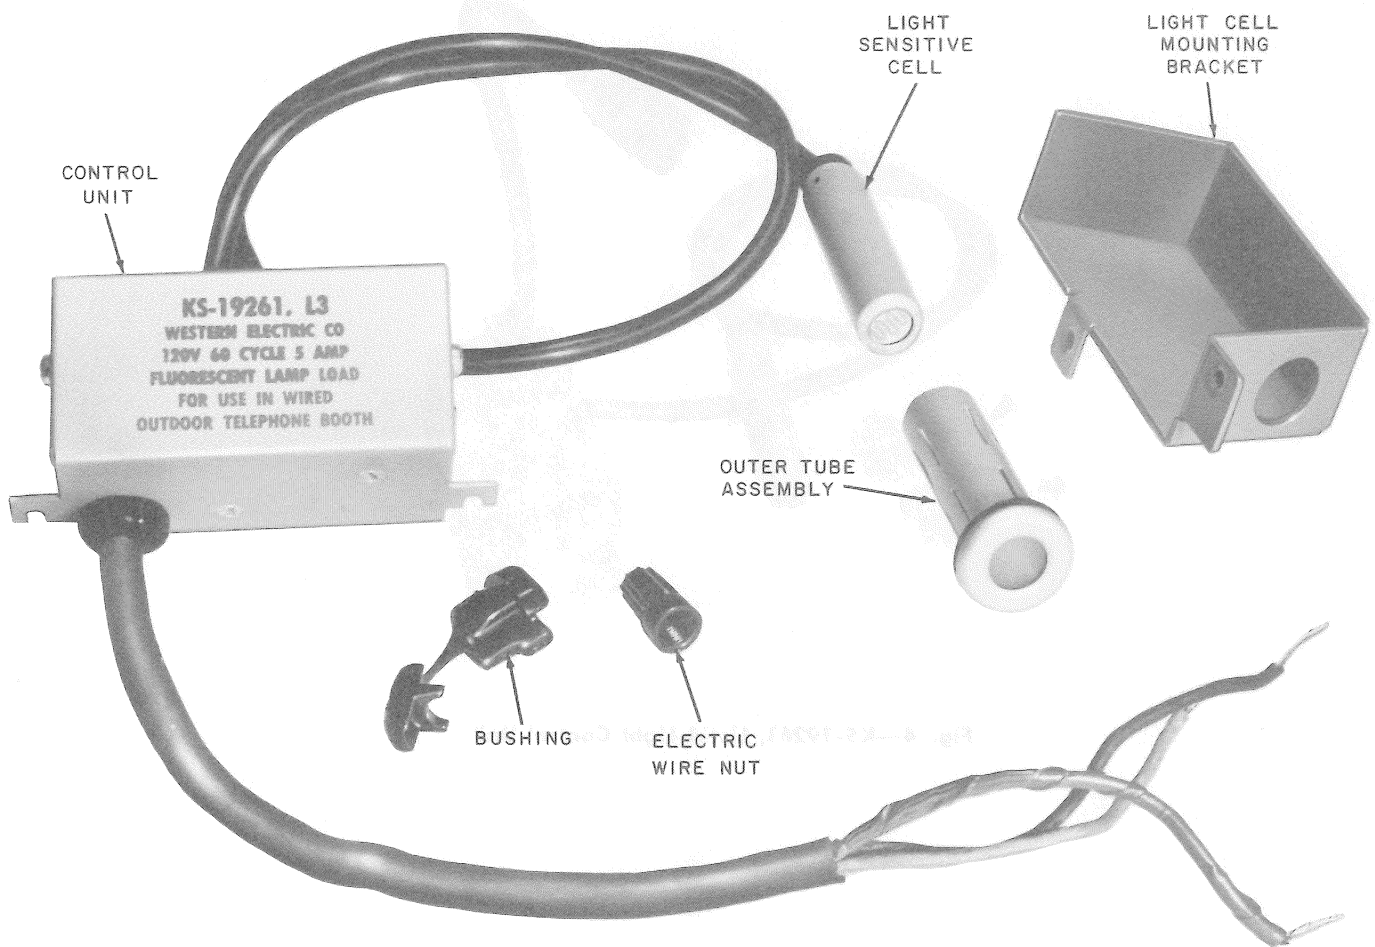

Fig. 3—KS-19261, List 3 Light Control Unit
2.05 The KS-19261, List 3 light control unit (Fig. 3) is used in the KS-19426 walk-up, drive-up mounting.